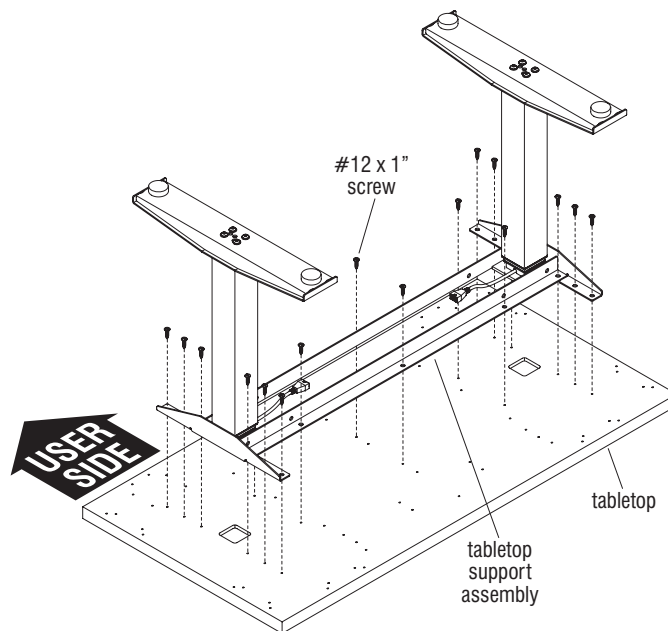

Figure 3
1. To avoid scratching the tabletop, place it with the top side down on a soft, protective surface (Figure 3).
2. Place the tabletop support with columns on the drilled face of the tabletop so the heads of the M8 bolts set into the pockets milled in the tabletop. The support should now be flush with the tabletop (Figure 3).
3. Move the tabletop support with columns slightly to align the holes in the tabletop with those in the support (Figure 3).
4. Attach the tabletop using #12 x 1" tapping screws in each available hole (Figure 3).